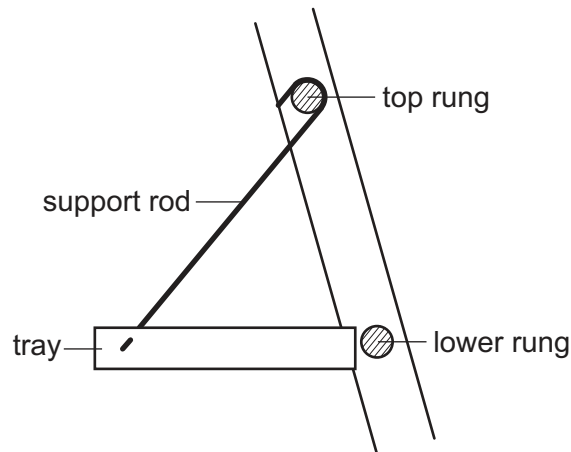

Fig. 11.5
- (f) Fig. 11.5 shows a sectional side view of the ladder with the paint holder in position. In use the tray must be supported by the lower rung.